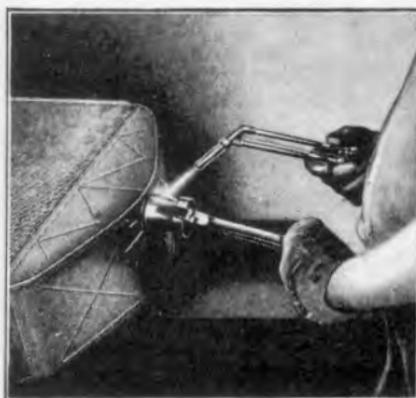

Fig. 404
- 811** To remove the filler neck of the radiator, cut it out with a chisel as shown in Fig. 404. Melt the solder then spread the neck and pull it off. Clean the old solder from the tank and bend the collar up so that the new filler neck will slip over it. Do not try to bend the metal while it is hot, as it is very brittle at this time.